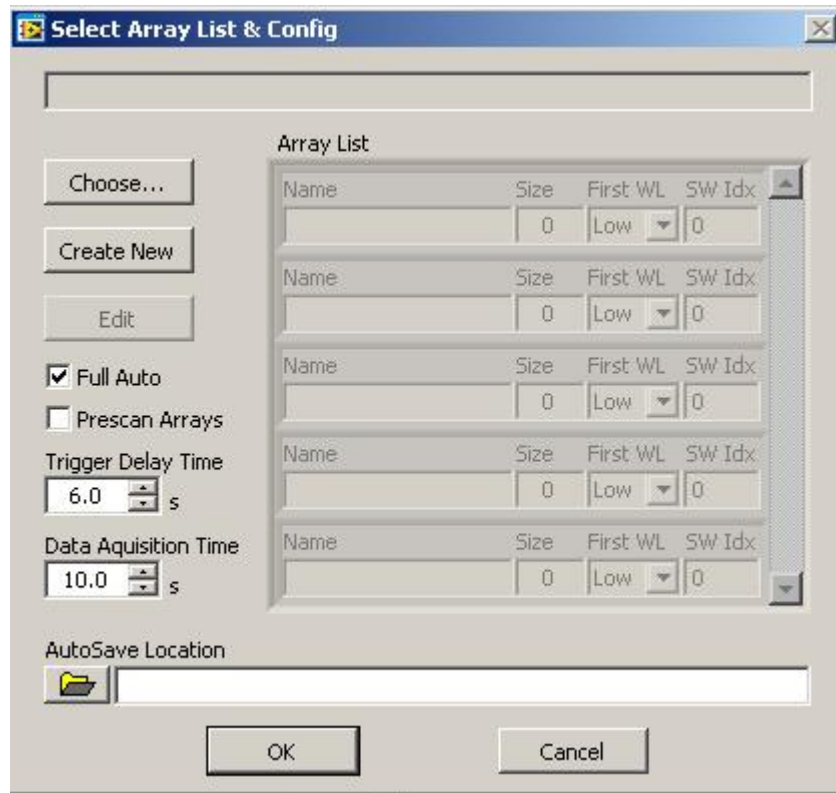

Figure 3.15.1: Array list Selector/Auto mode configuration
- i. Check 'Full Auto' box if you are using the interrogation system in automatic mode (Figure 3.15.1)